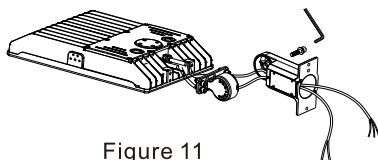

Figure 11
Step 2: Put input wire of the light across the bracket. (Figure 11)